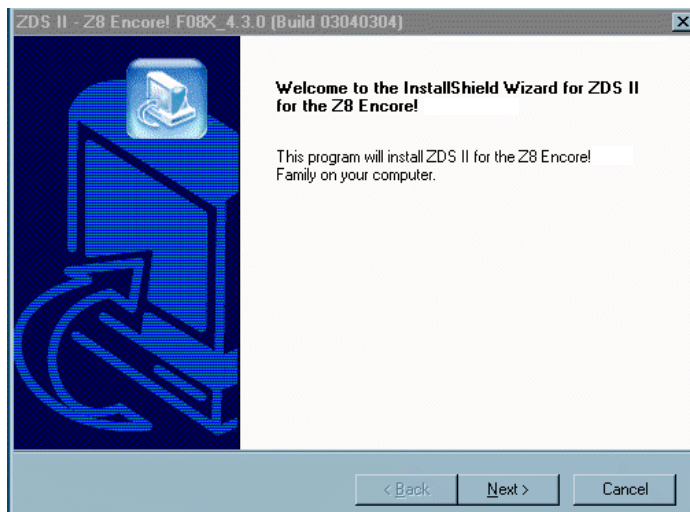

Figure 2. Installation Wizard (Reference Only)
1. Insert the ZDS II CD into the CD-ROM drive of the host PC. The CD launches *DemoShield* automatically and provides a menu to install the product and documentation. Select **INSTALL PRODUCTS** followed by **INSTALL ZDS II** to display the Installation Wizard (see Figure 2).